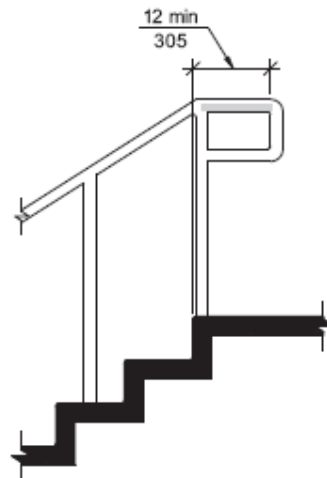

FIG. 505.10.2
- Provide minimum 12" top handrail extension (fig. 505.10.2 Accessible and Usable Buildings and Facilities ICC A117.1-2009)